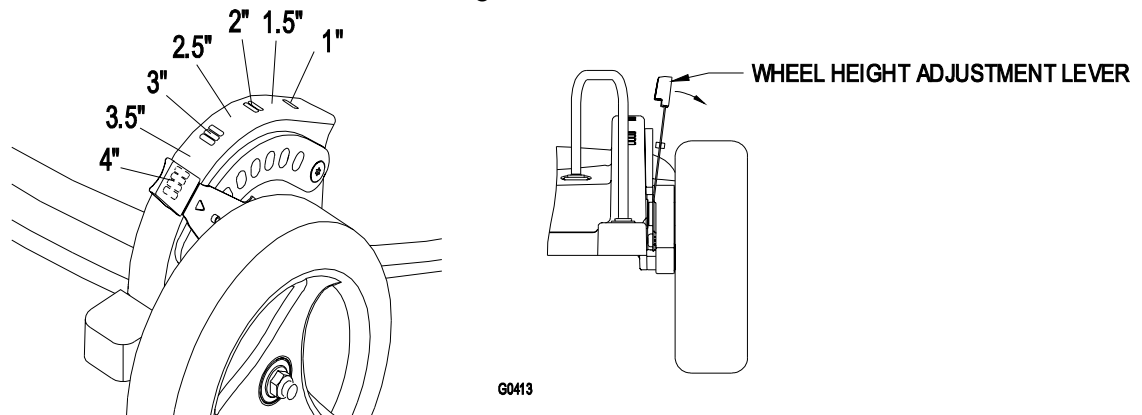

FIGURE 6
- c) Set all four wheels in to the 2-1/2 in. (64 mm) cutting height (Figure 6).
1. Pull the wheel height adjustment lever toward the wheel (Figure 6) and move it to the desired setting.